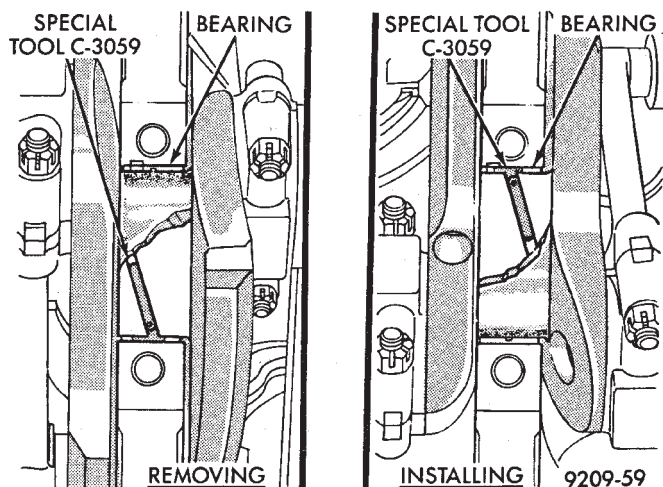

Fig. 32 Upper Main Bearing Removal and Installation with Tool C-3059
- (1) Remove the oil pan.
- (2) Remove the oil pump from the rear main bearing cap.
- (3) Identify bearing caps before removal. Remove bearing caps one at a time.
- (4) Remove upper half of bearing by inserting Crankshaft Main Bearing Remover/Installer Tool C-3059 into the oil hole of crankshaft (Fig. 32).
- (5) Slowly rotate crankshaft clockwise, forcing out upper half of bearing shell.
- (1) Start bearing in place, and insert Crankshaft Main Bearing Remover/Installer Tool C-3059 into oil hole of crankshaft (Fig. 32).
- (2) Slowly rotate crankshaft counterclockwise sliding the bearing into position. Remove Tool C-3059.
(3) Install the bearing caps. Clean and oil the bolts. Tighten the capbolts to 115 N·m (85 ft. lbs.) torque.
- (4) Install the oil pump.
- (5) Install the oil pan.